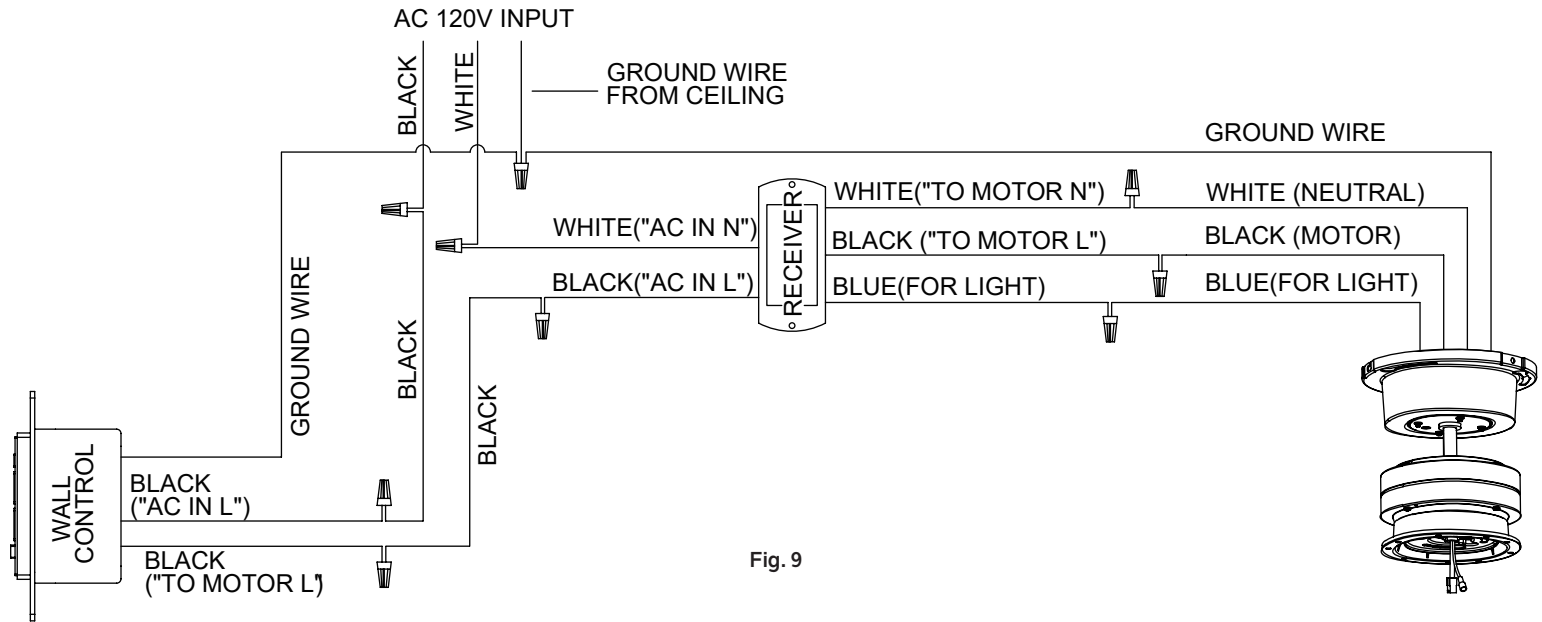

Fig. 9
**Step 5.** Secure all wires connections with the plastic wire connectors provided. (Fig. 9 )